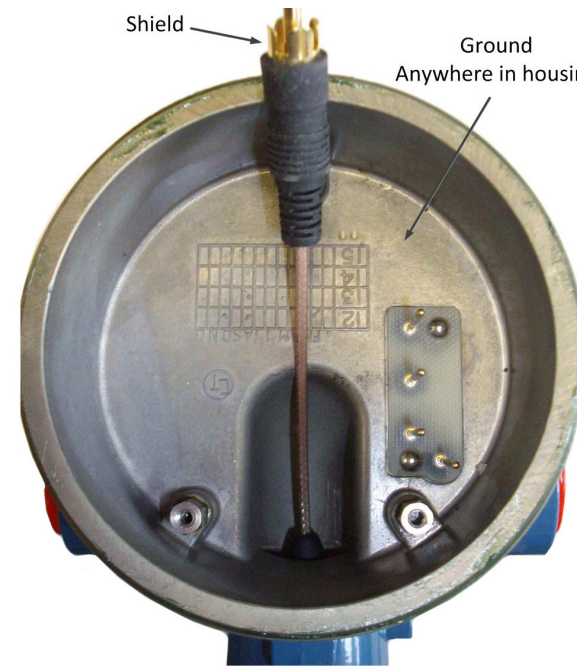

Figure 5-2
2. Use an analog ohmmeter¹ that is set to the R x 1K ohm scale, measure the resistances between each pair of sensing element connections. *See Figure 5-2 & 5-3.* Record values in Table 4.1